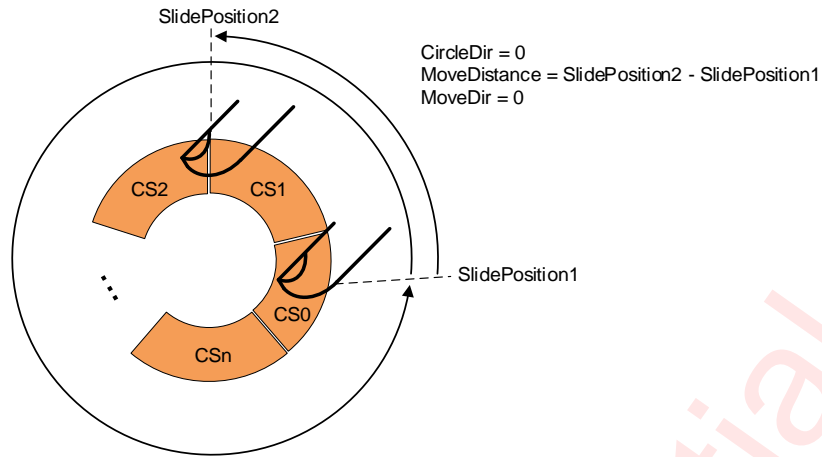
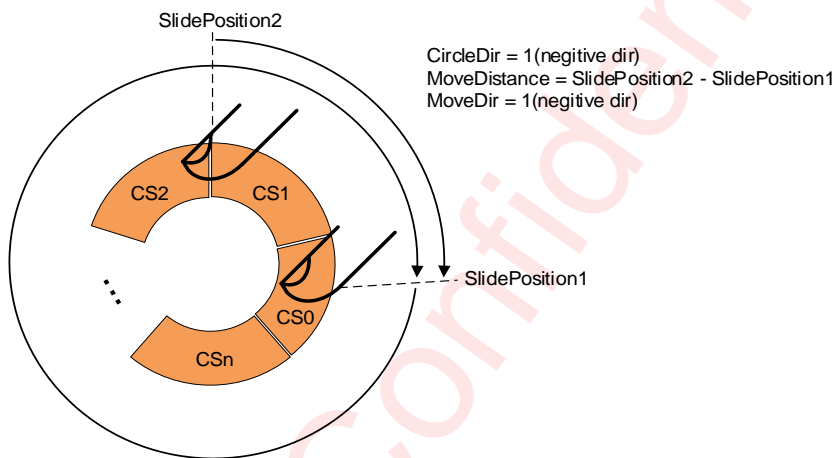

Figure 35 Counterclockwise Diagram
Figure 36 Clockwise Diagram
4. Place differential channel (in Figure 35 and Figure 36, pins CS3, CS4 and CS6, CS8 as shown) along with sensor channel to get better performance.